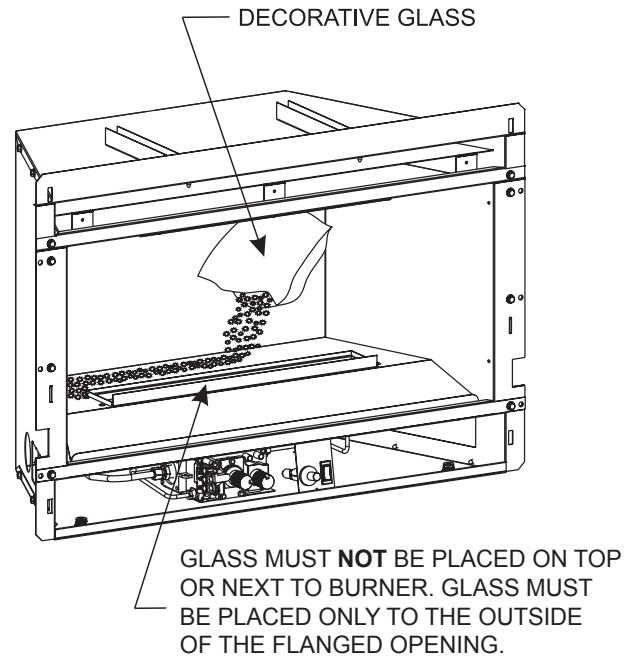
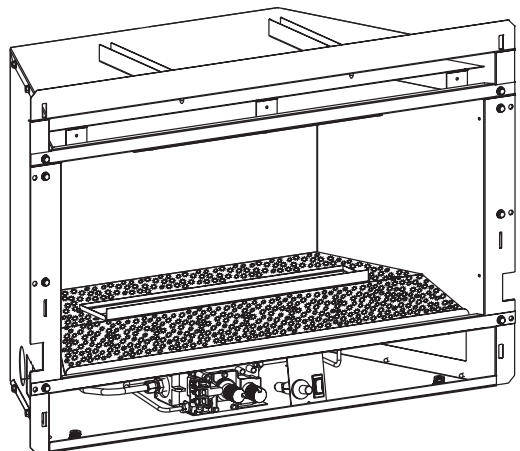

Figure 21
Figure 23
3. To install the Decorative Glass, cut off a corner of the plastic bag and proceed to apply the glass to the rear shelf on the Loft burner (area behind the burner). Apply only enough glass to the Top Cover to cover the black metal surfaces. Do not allow the glass to fall around the burner tube. **See Figures 21 and 22.** Apply the remaining decorative glass to the front sloped surface of the Top Cover. Start by placing the glass along the front edge of the top cover, then gradually place the glass up the sloped top until completely covered. Do not allow the glass to fall around the burner tube. **See Figure 23.**